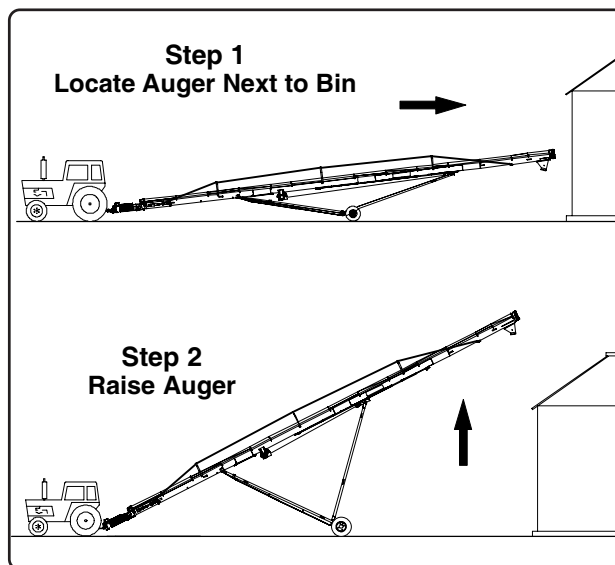

Fig. 2
1. Move the auger into its working position with a towing vehicle (See Fig. 2). Locate the auger as close as possible to the bin, or other storage structure (move auger slowly towards the bin with the towing vehicle - not by hand).